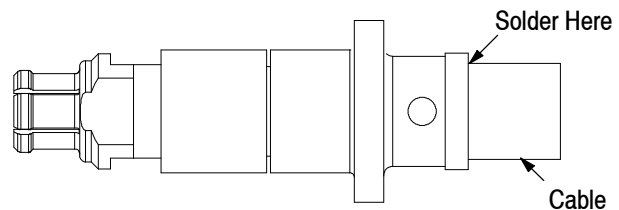

Figure 4
- Insert the cable center conductor into the center contact inside the rear shell of the cable plug until the cable bottoms. No braid strands should be exposed. See Figure 4.
- Holding the cable center conductor in place and using 60/40 solder, attach the rear shell to the cable as shown in Figure 4.